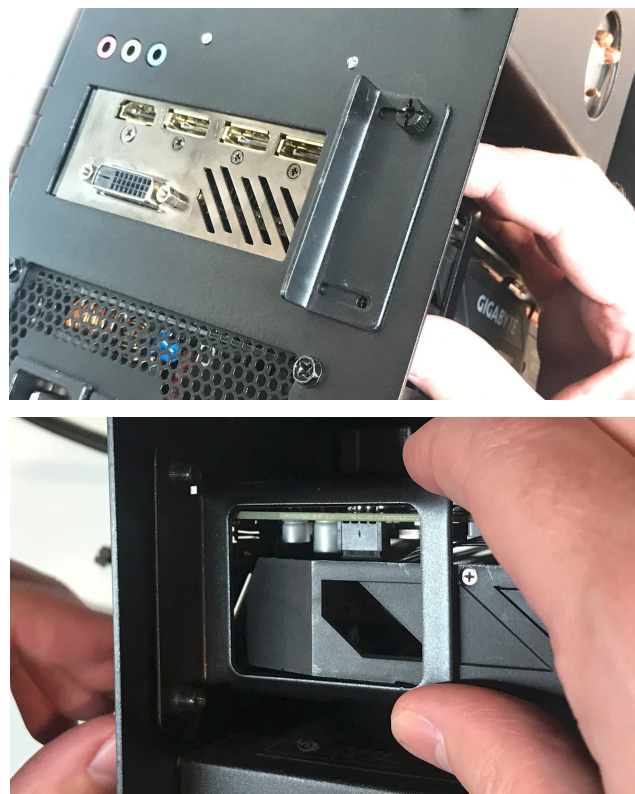

Fig. 23: Removing the thumbscrews and GPU Bracket.
4. Remove the GPU brace. Unscrew the bottom two screws, and then the top two screws, to remove the brace. Both the PCI bracket and the GPU brace keep your graphics card secure and in place (Fig 23).